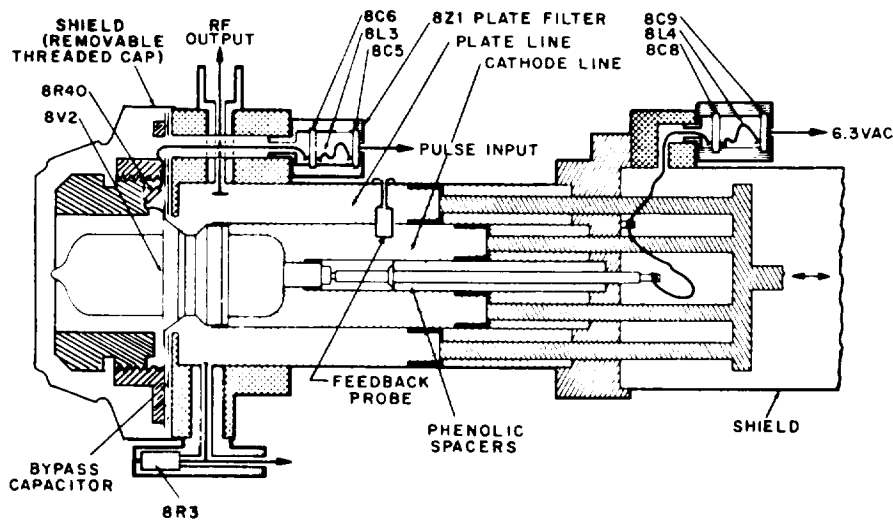

Figure 4-37. RF Oscillator Assembly 8A1, Cutaway Drawing
1. RF OSCILLATOR, - Rf oscillator 8V2 is a type 2C36 planar triode tube in a tuned plate, tuned cathode circuit. Its construction is shown in figure 4-37. The tuning elements are one-quarter wave-length coaxial lines tuned by shorting plungers. For purposes of compactness, the cathode line is arranged inside, and concentric with, the plate line. The frequency can be varied from 925 to 1225 megahertz by changing the position of the shorting plungers. The oscillator is capable of responding to the short pulse duration and pulse spacing of the modulating pulse train from the SIF Coder. The feedback required to maintain oscillation is provided by a built-in feedback probe in the 8V2 tube plus an external feedback probe. These probes enable the oscillator to respond within the short time interval required for SIF Coder modulation.